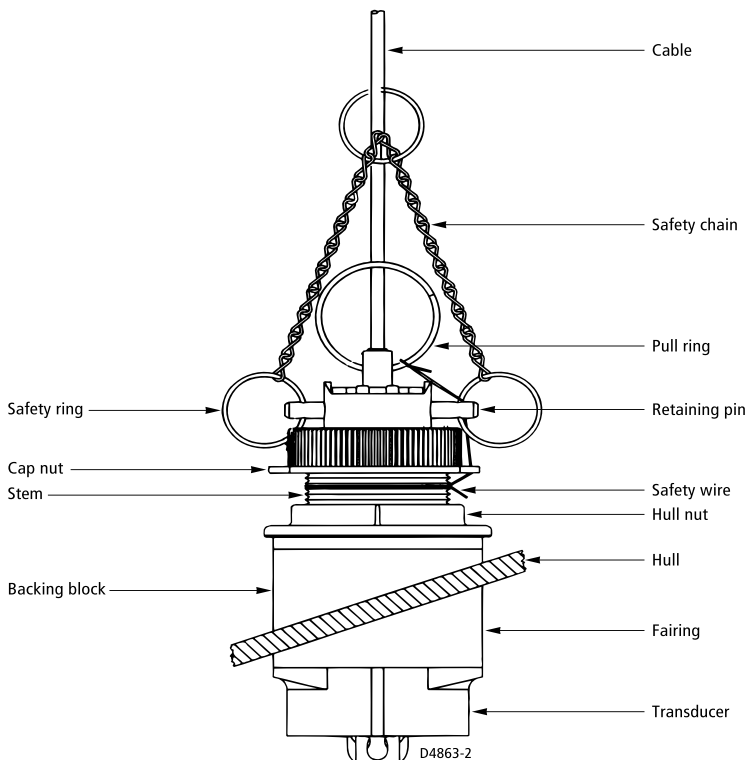

Figure 2-9: Fore View of Transducer Installation
3. From inside the hull, slide the backing block onto the transducer cable and stem, seating it firmly against the hull (*Figure 2-9*).
13. Slide the center ring of the safety chain onto the cable. Slide the retaining pin in place and reattach the safety ring (*Figure 2-9*).